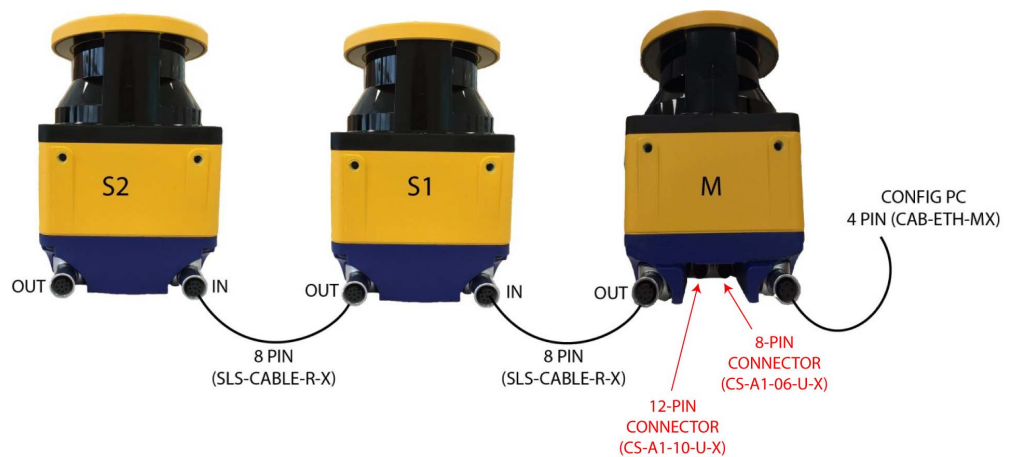

Figure 7 - Master - Slave connection (older software versions)
- For older product software versions, please refer to Figure 7.